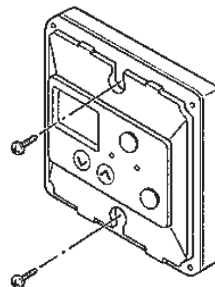

fig.4
6. Fix the controller to the wall and fasten with the phillips head screws supplied as shown in (fig. 4.)